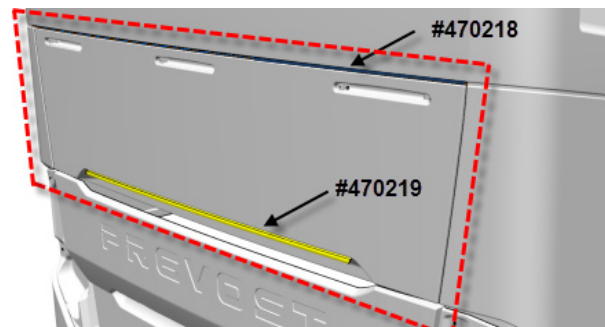

FIGURE 22
2. Clean dirt on the lower part of the **exhaust aftertreatment system ATS** access hatch as well as the area located right above the ATS access hatch (FIGURE 22). It is very important to install the drip edge on a clean surface to assure water tightness.
NOTE: FIGURE 22 shows where the drip edges will be installed.